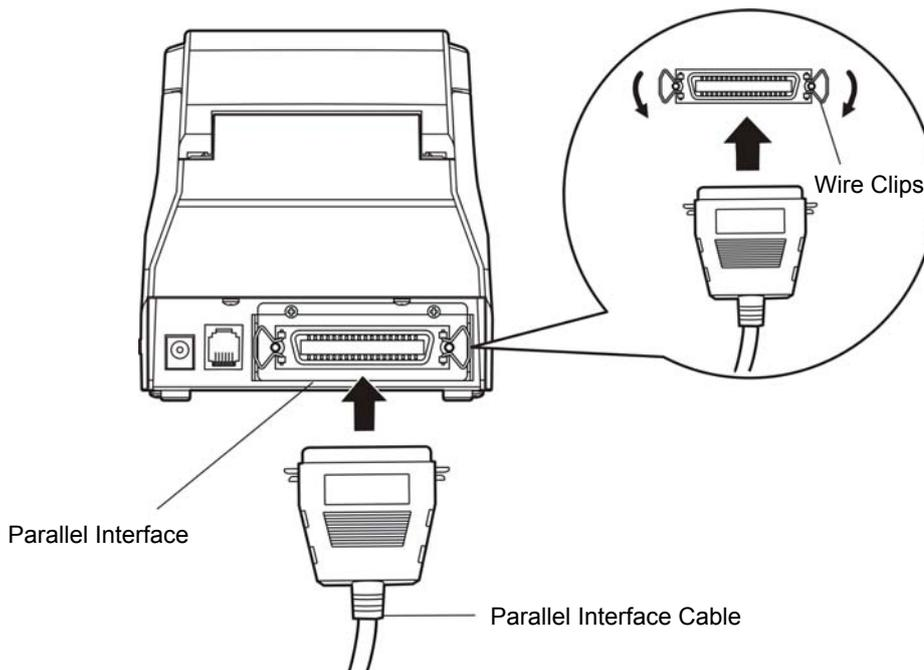

Figure 2-3 Connecting the parallel interface cable
1. Make sure the computer and the printer are both turned off, connect the parallel interface cable to the connector of the printer, and then fasten the wire clips as shown in Figure 2-3.